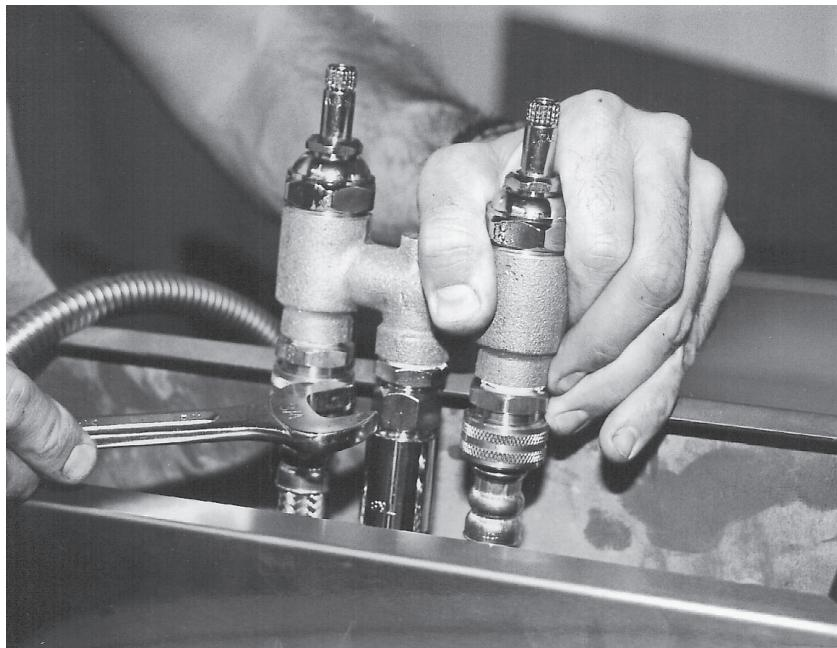

Fig. 56
9. With a  $\frac{3}{4}$ " wrench, disconnect the spray hose water line attached to the cast iron faucet body. (Fig. 56)